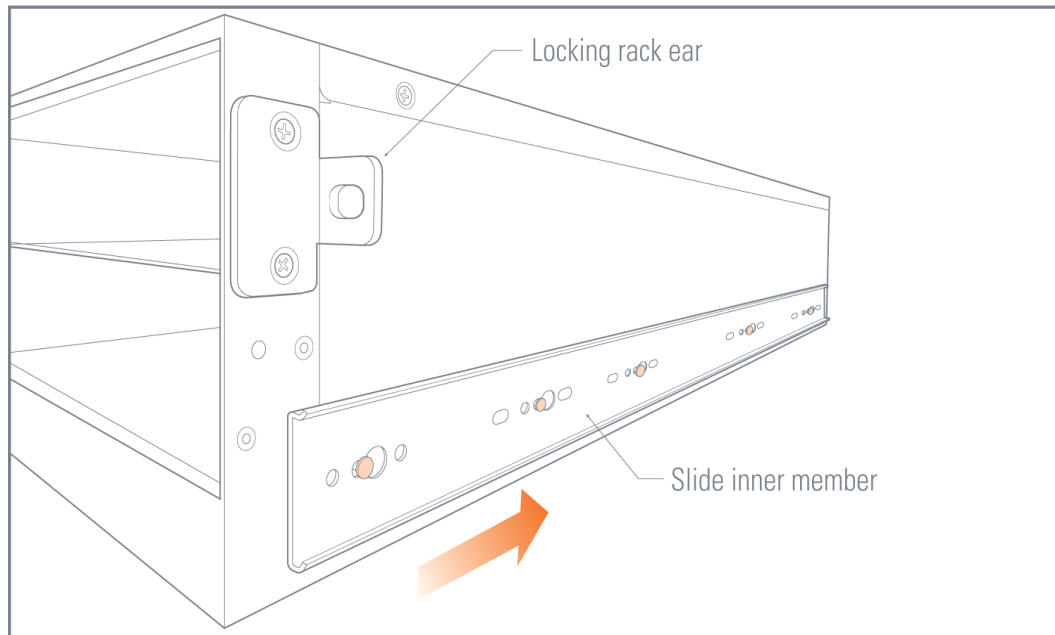

Figure 3-3: Slide Inner Member and Locking Rack Ear Installed on Chassis
6. Attach the left and right inner members of the mounting slide to the chassis and attached the locking rack ear to the chassis. Refer to Figure 3-3 on page 54.